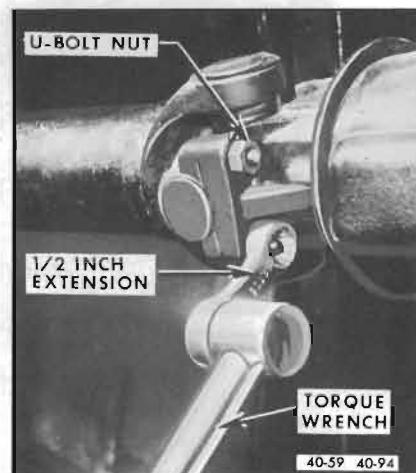

Figure 40-59—Using Extension to Torque U-Bolt Nuts
3. Install U-bolts, lock washers and nuts; torque nuts evenly to 12-16 lb. ft. See Figure 40-59.